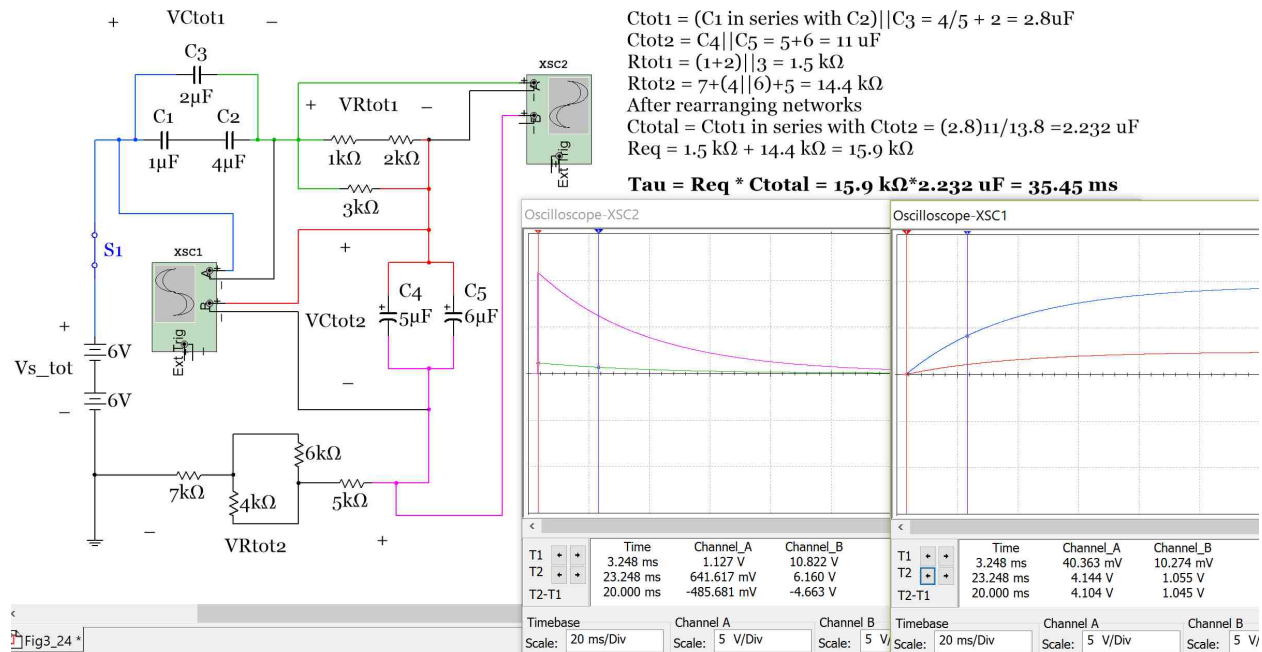

Figure 3.24b: Circuit for Example 3.8 and oscilloscope plots.
*Example 3.8) In the circuit in Figure 3.24b determine the voltage across each resistor and capacitor network right after switch,  $S1$ , is closed ( $t = 0$ ) and when the time reaches 20 msec. The cursor on the scope plot below already has  $T2-T1$  placed at 20 msec. Perform calculations and compare the results with those obtained from the Multisim oscilloscope.*